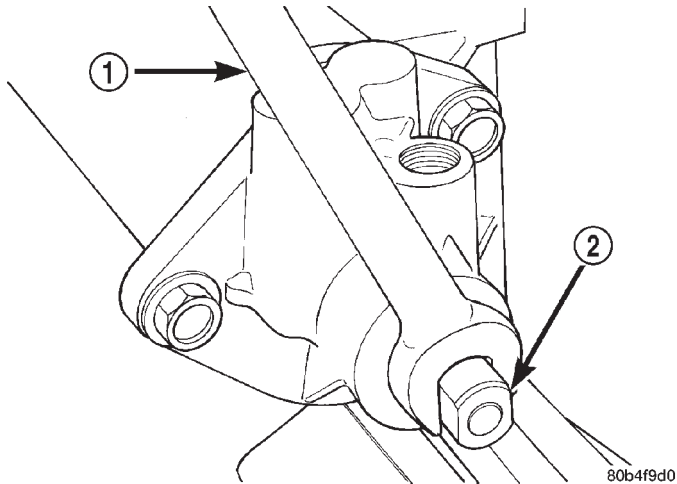

Fig. 16 Center Stub Shaft
(1) Clean exposed end of pitman shaft and housing with a wire brush.
(2) Rotate the stub shaft with a wrench (Fig. 16) from stop to stop and count the number of turns.